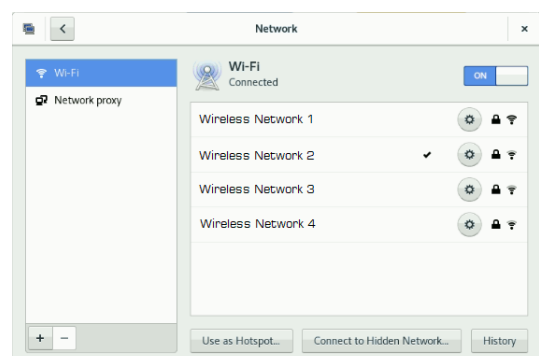

Figure 6: Network Settings
1. Access the Networks Settings menu, as depicted in Figure 6.
1. Access the Networks Settings menu, as depicted in Figure 6, then tap on Connect to Hidden Network.